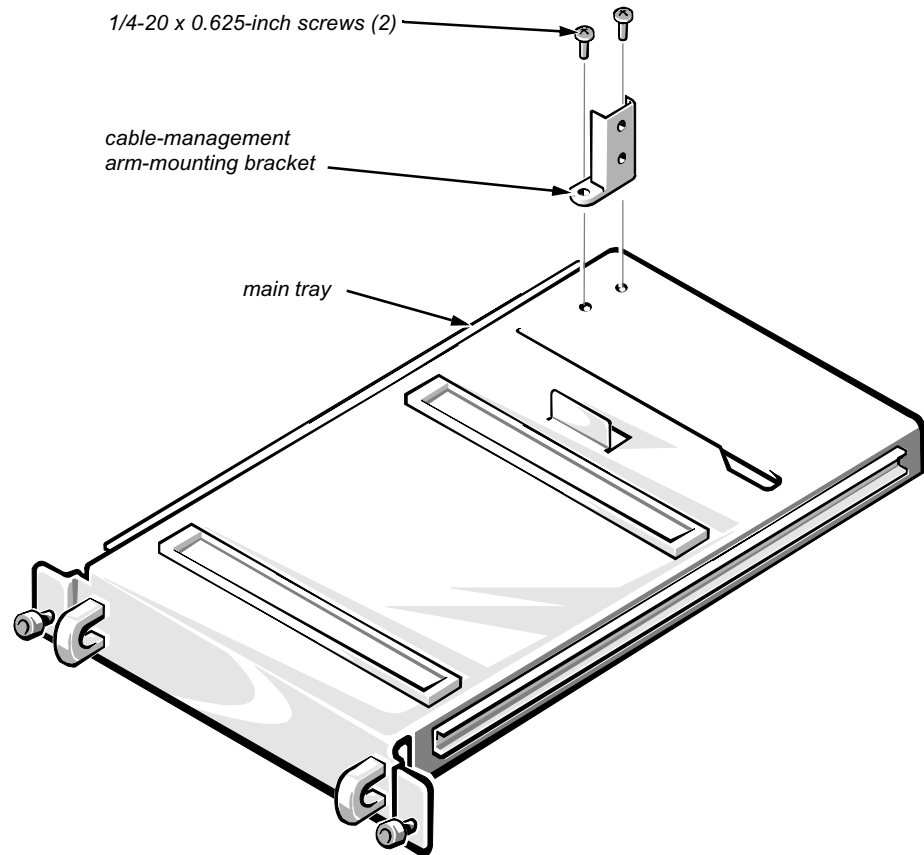

Figure 9. Installing the Cable-Management Arm-Mounting Bracket
1. **Position the cable-management arm-mounting bracket as shown in Figure 9.**